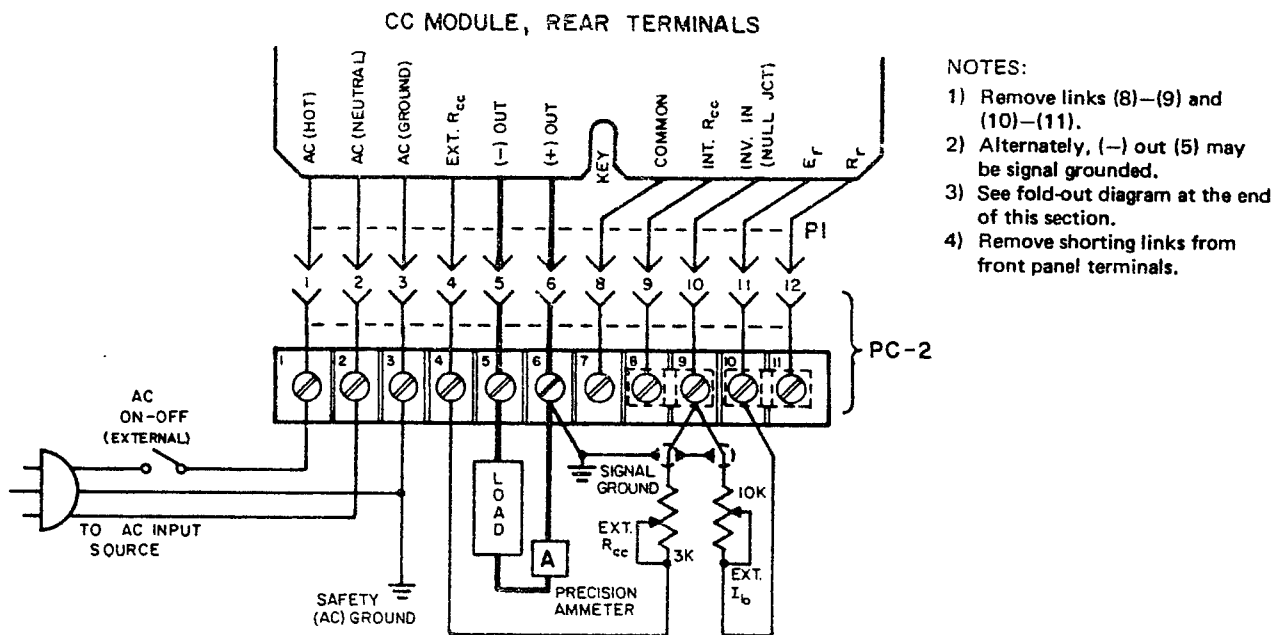

FIG. 3-5 RESISTANCE PROGRAMMING AND ADJUSTMENT FOR NONSTANDARD PROGRAMMING RATIO.
- Proceed exactly as described in par. 3-17a. In addition, connect a 40 K trim-rheostat between rear terminals (9) and (10). (Refer to FIG. 3-5.)